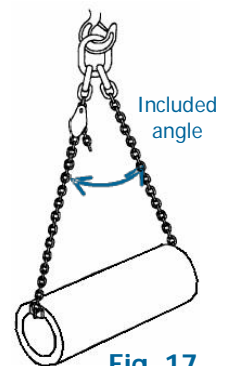

Fig. 17
- A single-leg sling back hooked to form a basket hitch assumes the appearance of a two-leg sling but it should never be rated as such. It should be noted that the master link is only designed for single leg loading and therefore the single leg WLL should never be exceeded. (see Fig. 17)